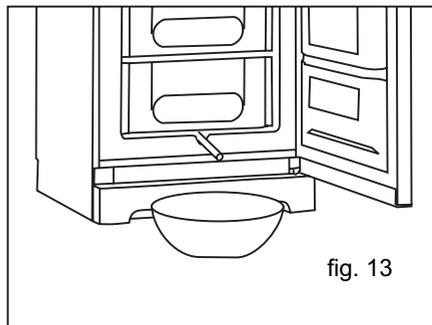

fig. 13
3. Pull out the drain spout at the bottom of the cabinet and place a bowl under it to collect defrost water (fig. 13). If the spout is frozen in place, lay a cloth which has been soaked in hot water over it for a few minutes.